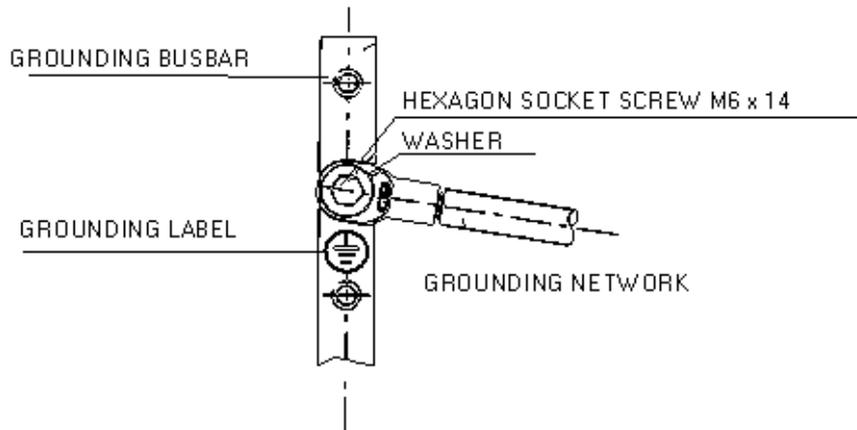

Figure 1. An example of connecting the grounding cable to the rack.
- Figure 1. An example of connecting the grounding cable to the rack. **12**
Connect the insulated 25 mm2 (AWG2) grounding cable to the 6 mm bolt at the vertical busbar of the first rack in the row (type BCBE in the BSC2), using round terminals (not two legged spades; see Figure 1). Connect the other end of the cable to the ground bar of the site.
Connect the ground potentials of the adjacent racks using three prefabricated ground straps (referred to as 'Ground strap B' in the figures 2 and 3 below). The main grounding point is marked with a label on the rack as shown in Figure 1. Repeat the steps above with the other racks of the row, if it contains more racks.